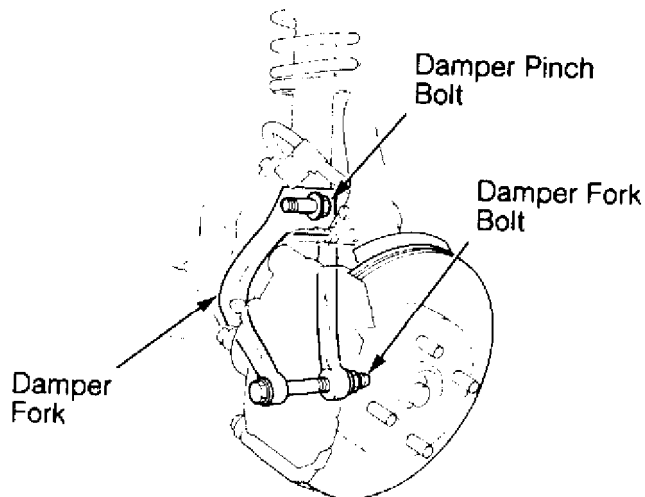

Fig. 1: Locating Damper Fork & Pinch Bolts
1) Raise and support vehicle. Remove front wheels. Drain transaxle if removing right or both axle shafts. Draining transaxle is unnecessary if removing left axle shaft only. Spread locking tab on spindle nut and remove nut. Remove damper fork bolt and damper pinch bolt. Remove damper fork. See Fig. 1.